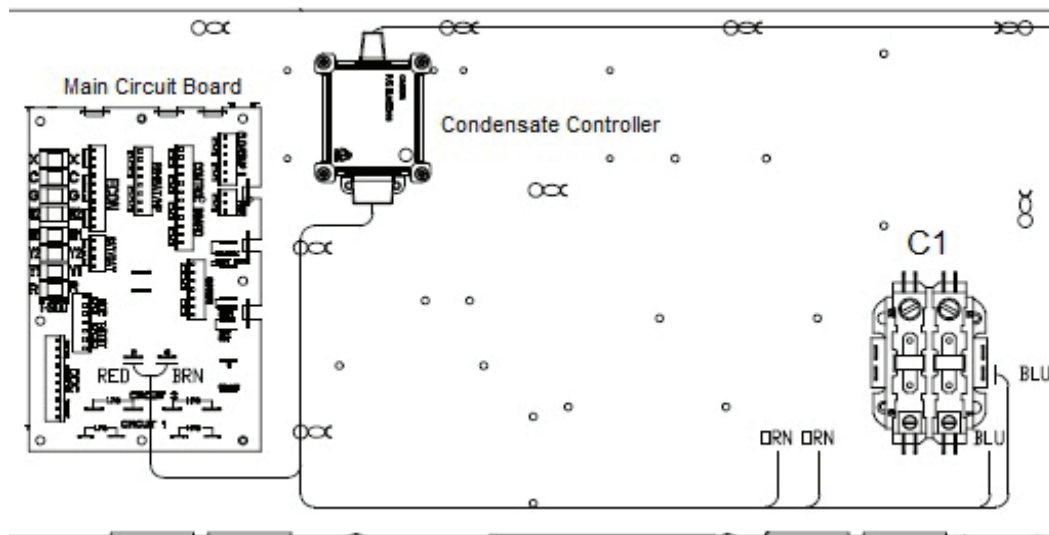

Fig. 3 — Single Compressor
1. Remove wire from C1 coil and connect to BLU “Cond 1 In” wire from controller. Connect BLU “Cond 1 Out” wire from controller to open terminal on C1 coil. See Fig. 3.
Out” wire from controller to open terminal on C1 coil. See Fig. 3.